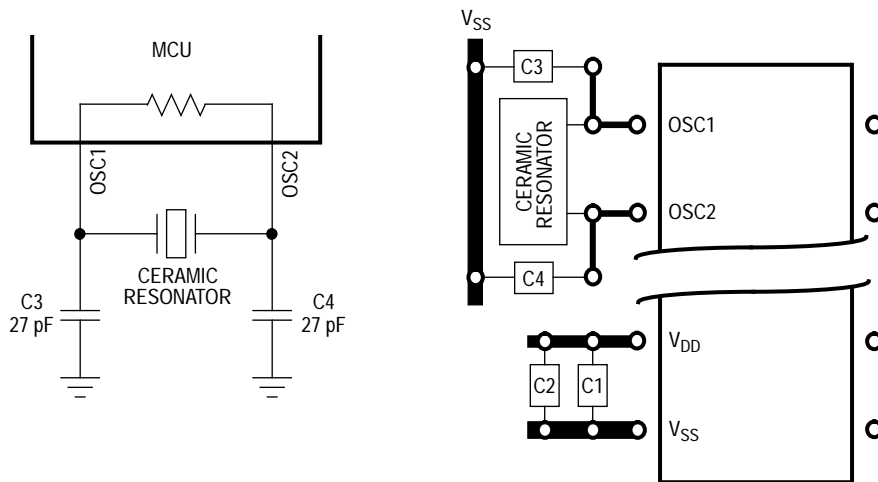
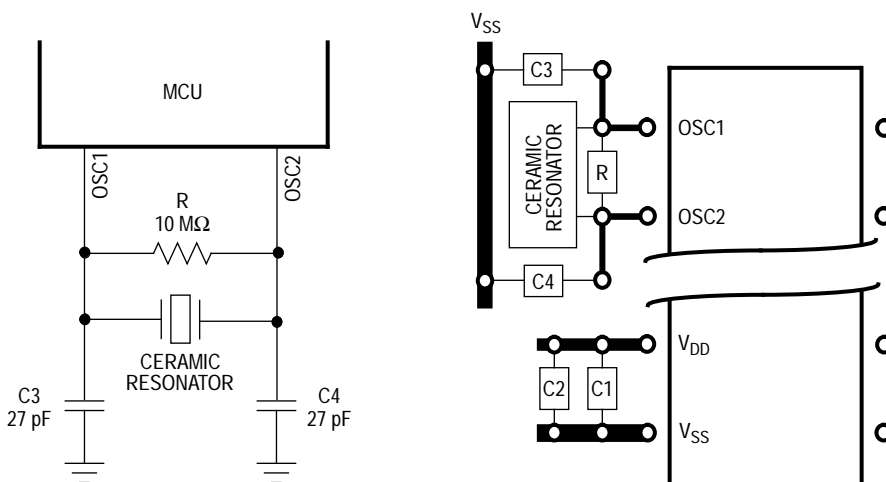
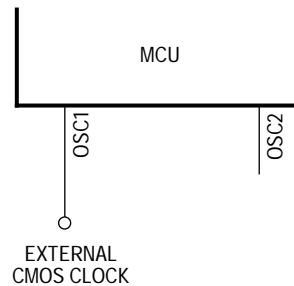

Figure 5. Ceramic Resonator Connections with Oscillator Internal Resistor Mask Option
Figure 6. Ceramic Resonator Connections without Oscillator Internal Resistor Mask Option
Figure 7. External Clock Connections
2. Ceramic resonator (See Figure 5 and Figure 6.)
3. Resistor/capacitor (RC) oscillator (Refer to Appendix A and Appendix C.)
4. External clock signal as shown in (See Figure 7.)
To reduce cost, use a ceramic resonator instead of the crystal. The circuits shown in Figure 5 and Figure 6 show ceramic resonator circuits. Follow the resonator manufacturer's recommendations, as the resonator parameters determine the external component values required for maximum stability and reliable starting. The load capacitance values used in the oscillator circuit design should include all stray capacitances.
An external clock from another CMOS-compatible device can be connected to the OSC1 input, with the OSC2 input not connected, as shown in Figure 7. This configuration is possible regardless of whether the crystal/ceramic resonator or the RC oscillator is enabled.